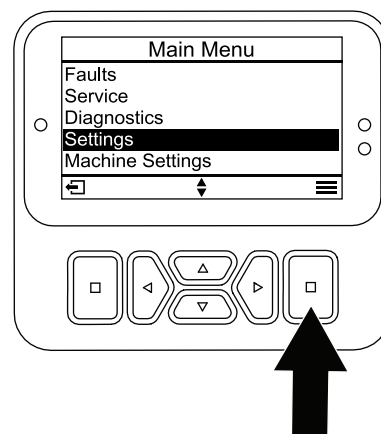

Figure 28
1. From the MAIN MENU, scroll down to the SETTINGS menu and press the select button (Figure 28).